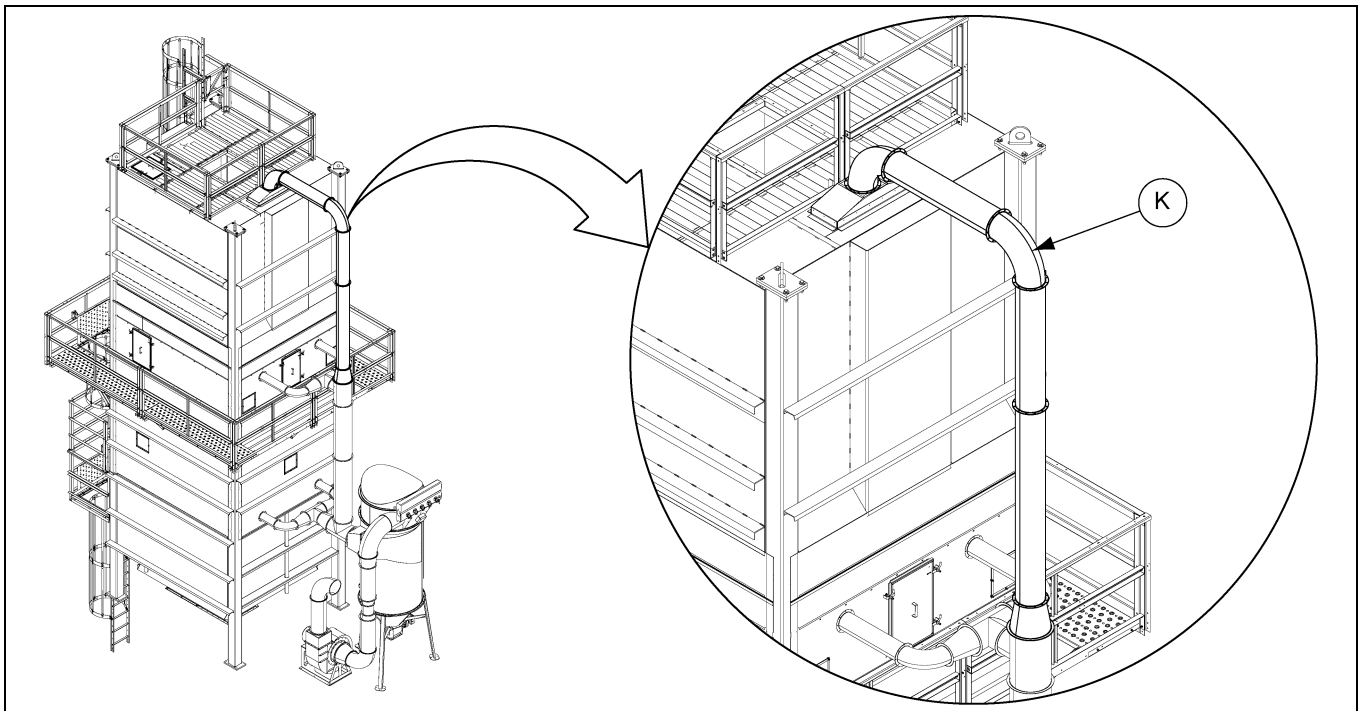

Figure 2O
4. Assemble upper garner duct section (K). (See Figure 2O.)